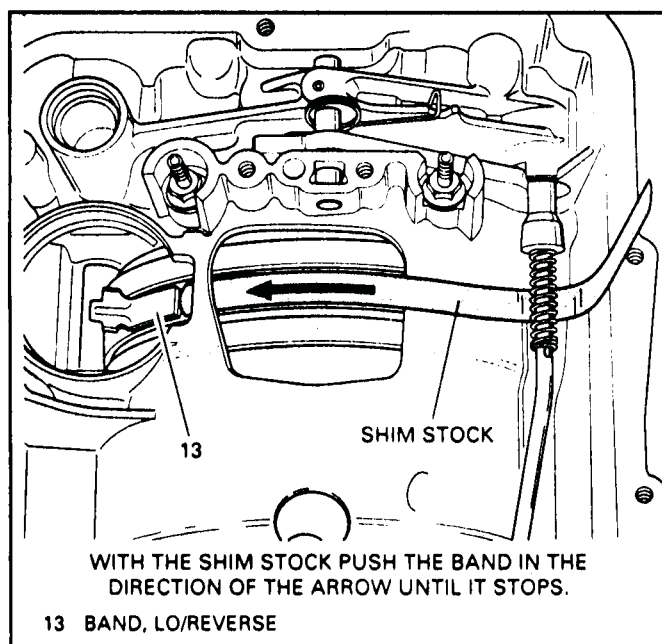

Figure 116
2. Position the low/reverse band using a .020"-.030" long feeler gage as shown in Figure 116. With the feeler gage, push the band in the direction of the arrow until it stops (See Figure 116).